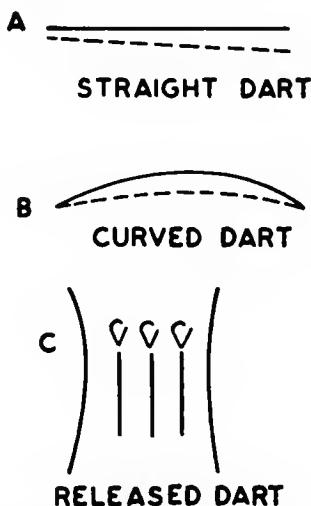

Fig. 91. Kinds of darts.
- A. One type is wide at one end and tapers to nothing at the other. This is usually a straight dart (Fig. 91, a).
- B. Another type is wide in the center and tapers to a point at each end. This dart is often used at the waistline and is a curved dart (Fig. 91, b).
C. Some waistline and shoulder darts are released part of the way (Fig. 91, c).